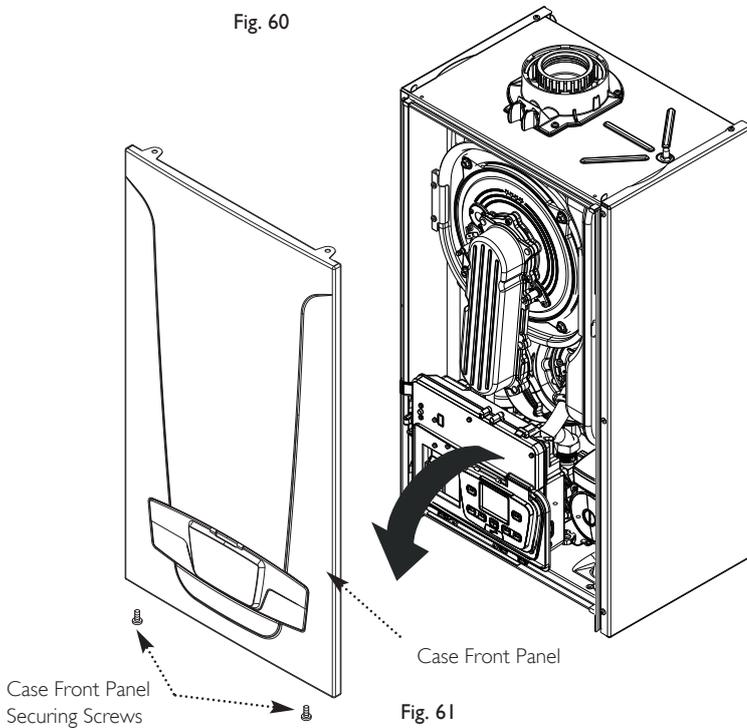

Fig. 61
2. Undo the securing screws and lift the case front panel off (Fig. 61).
3. Disengage the securing tab and hinge the control box downwards (Fig. 61).